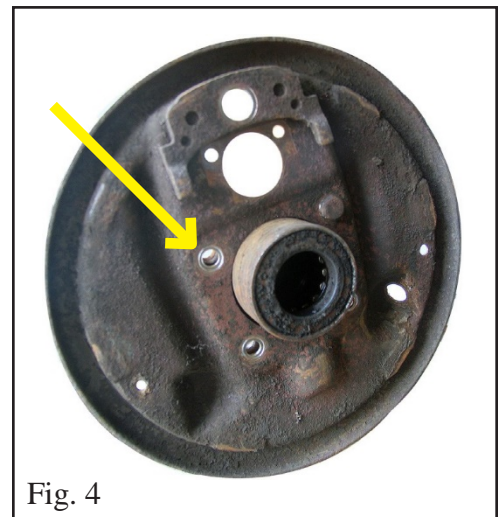

Fig. 4
11. Remove the drum backing plate assemblies by removing the four mounting bolts (figure 4).